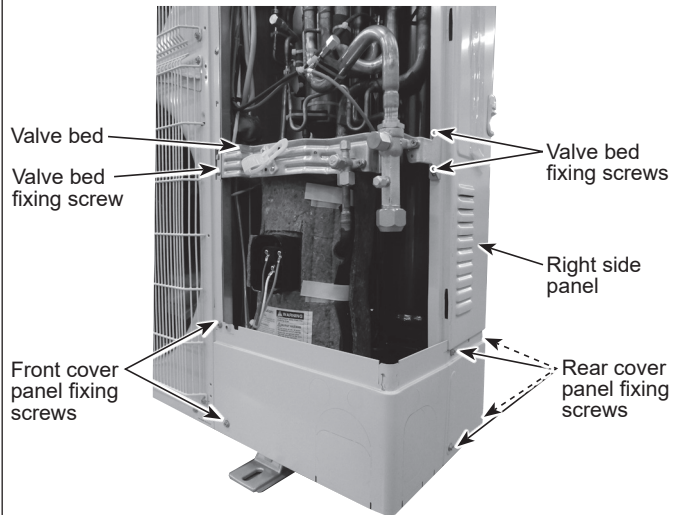

Figure 2
- (1) Remove the service panel. (See Photo 1)
- (2) Remove the top panel. (See Photo 1)
- (3) Remove the cover panel (front). (Refer to procedure 8(5))
- (4) Remove the cover panel (rear) (Refer to procedure 8(6))
- (5) Remove the side panel (R). (Refer to procedure 8 (7))
- (6) Remove 2 front cover panel fixing screws (5 × 12) and remove the front cover panel. (See Photo 4)
- (7) Remove the electrical parts box. (See Photo 5)
- (8) Remove the valve bed. (Refer to procedure 8 (4))
- (9) Remove 3 separator fixing screws (4 × 10) and remove the separator. (See Figure 2)
- (10) Recover refrigerant.
- (11) Remove the 3 compressor fixing nuts for motor using spanner or adjustable wrench.
- (12) Remove the welded pipe of compressor inlet and outlet and then remove the compressor.